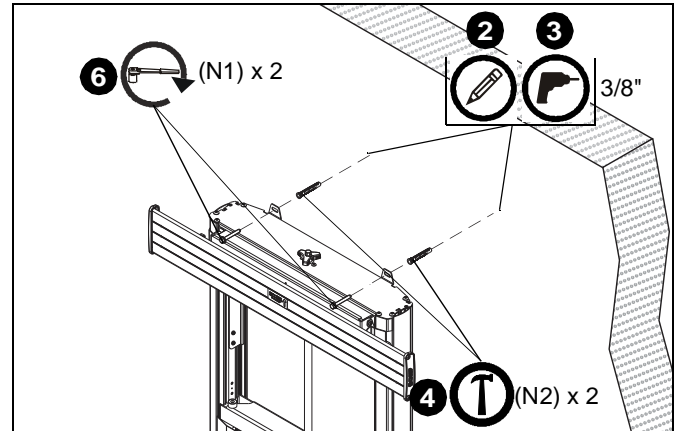

Figure 2
1. Place column assembly against wall at desired mounting location. (See Figure 2)
2. Mark hole locations at each mounting location. (See Figure 2)
3. Drill two 3/8" holes at marked hole locations. (See Figure 2)
4. Install an anchor (N2) into each pilot hole using a hammer, making sure that the anchor is flush with the wall. (See Figure 2)
6. Install two 5/16 x 2 1/2" hex head cap screws (N1) through holes on attachment brackets and into anchors (N2) on wall. (See Figure 2)